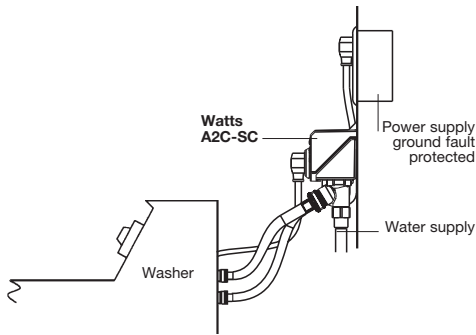

Figure 4
11. Plug the IntelliFlow's power cord into the electrical receptacle that has been turned off (Figure 4).